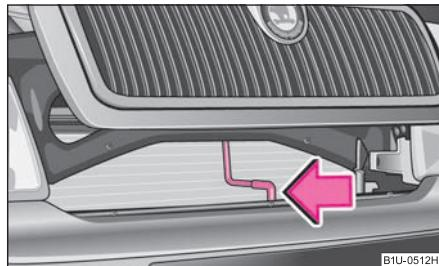

Fig. 143 Radiator grille: Locking lever
- Press the locking lever in direction of arrow ⇒ fig. 143 and lift up the bonnet.